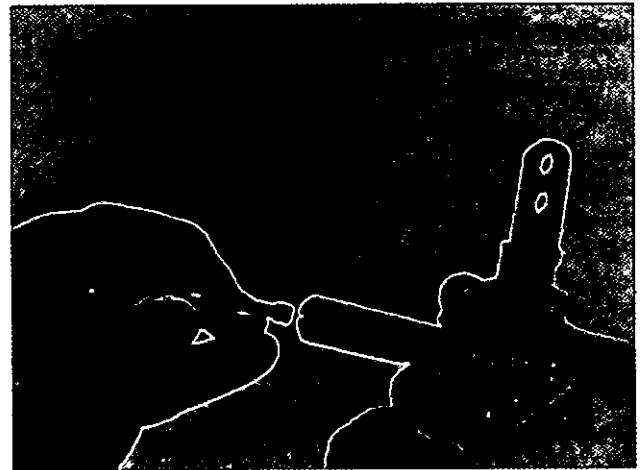

Fig. 8-11, (F564). Install the throttle restriction plunger.
**Note:** Install enough shims to make the plunger even with the fuel passage. It must be completely open for the pump calibration, Fig. 8-11. Some throttle shafts do not have a restriction plunger.